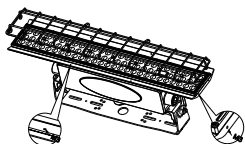

Figure 18
1. There are already 8 M3 screw holes on the cover of the fixture (Figure 18).